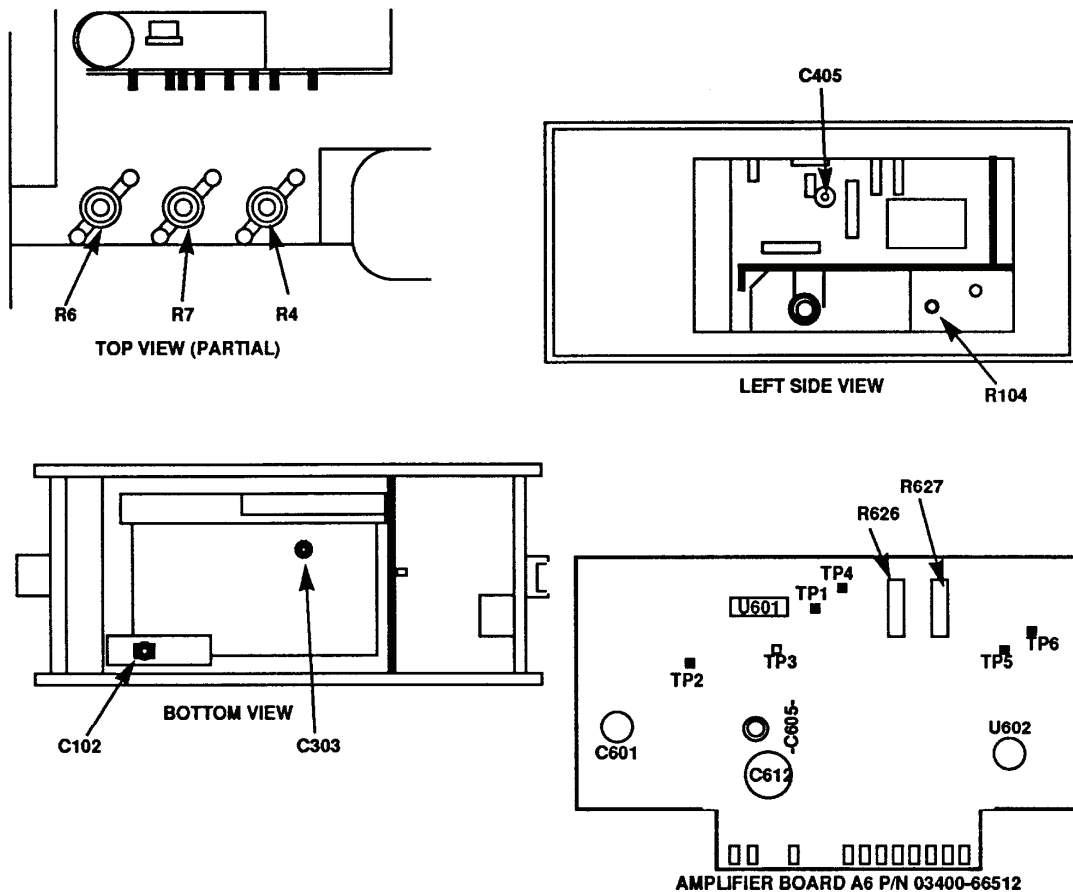

Figure 1. Test instrument - top, left side, bottom view, and A6 board, P/N 03400-66512.
- (1) Adjust R4 (R627 for TIs with amplifier board A6, P/N 03400-66512) (fig.1) until multimeter indicates -1.00 V.
- (2) If necessary, adjust R6 (fig. 1) for full-scale indication on TI.
- (3) Set calibrator for a 10 mV, 400 Hz output. Adjust R6 (fig.1) until TI indicates full scale (R).
- (4) Set **RANGE** switch to **.1 VOLTS**.
- (5) Adjust R7 (R626 for TIs with amplifier board A6, P/N 03400-66512) (fig. 1) until TI indicates 0.01 V (1 / 10 scale) (R).
- (6) Set **RANGE** switch to **.01 VOLTS**.
- (7) Repeat (3) through (6) above until no further adjustment is necessary.
- (8) Set calibrator for a 1.0 V, 400 Hz output. Adjust R104 (fig. 1) until TI indicates 1 (R).
- (9) Set TI **RANGE** switch to **.001 VOLTS**. Set calibrator wideband output to 400 Hz and adjust amplitude for a full scale reference indication. Press **NEW REF** on calibrator.
- (10) Set calibrator frequency to 10 MHz. Adjust C405 (fig. 1) for the 400 Hz full scale reference established in **b** (9) above (R).
- (11) Vary calibrator frequency between 3 and 10 MHz and if required, readjust C405 (fig. 1) for best in-tolerance condition.
- (12) Set TI **RANGE** switch to **1 VOLTS**. Set calibrator wideband output to 400 Hz and adjust amplitude for a full scale reference indication. Press **NEW REF** on calibrator.
- (13) Set calibrator frequency to 100 kHz. Adjust C102 (fig. 1) for the 400 Hz full scale reference established in **b** (12) above (R).
(14) Vary calibrator frequency between 100 kHz and 10 MHz and, if required, readjust C102 (fig. 1) for best in-tolerance condition.
(15) Set TI **RANGE** switch to **.3 VOLTS**. Set calibrator wideband output to 400 Hz and adjust amplitude for a 0.3 Volt reference indication. Press **NEW REF** on calibrator.
(16) Set calibrator frequency to 3.0 MHz. Adjust C303 (fig. 1) for the 400 Hz 0.3 V reference established in **b** (15) above (R).
(17) Vary calibrator frequency between 3 and 10 MHz and, if required, readjust C303 (fig. 1) for best in-tolerance condition.